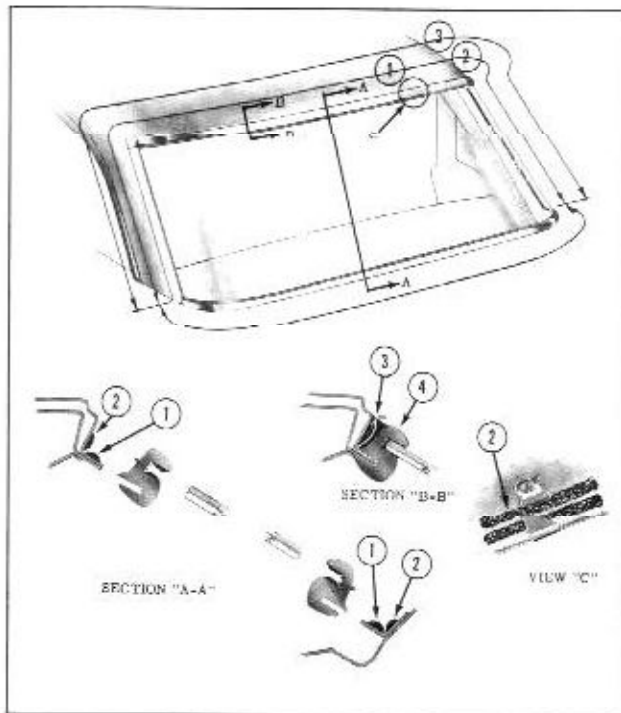

Fig. 15-33 Back Window Sealing
3. On styles using clip retained reveal moldings, check retaining clips and replace damaged or defective clips. Prior to installing clips, apply a continuous ribbon of medium-bodied sealer (approximately 1/4 inch thick) along the pinchweld and retaining flange ("1" in Fig. 15-33) completely around the opening.
4. Apply a second continuous ribbon of medium-bodied sealer (approximately 1/4 inch thick) along outer wall of back window opening ("2" in Fig. 15-33) completely around opening.
7. On styles with clip retained reveal moldings, apply sufficient medium-bodied sealer to fill void between rubber channel and body opening up sides and across top of window ("3" in Fig. 15-33)
8. Using a pressure type applicator, apply an approved weatherstrip adhesive (black) between outer lip of rubber channel and glass ("4" in Fig. 15-33) completely around rubber channel.